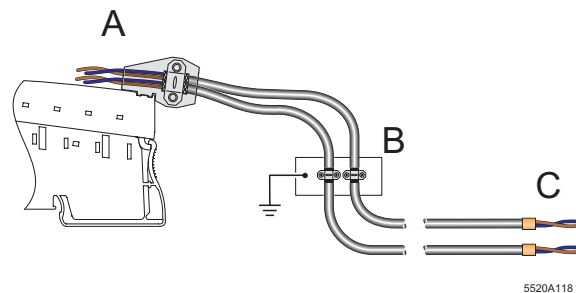

Fig. 5 Connection of two analog sensors with separate cables
Connect the sensors with separate sensor cables to protect them against ground loops as follows (see Fig. 5).
- Install a busbar with a connection to the ground potential in front of the Inline terminal (detail B in Fig. 5).
- Lead the sensor cables to the Inline terminals and connect the shield using the shield connection clamp of the shield connector (see A in Fig. 5).
- Lead the sensor cable into the sensor making sure to **maintain the cable insulation** (detail C in Fig. 5).